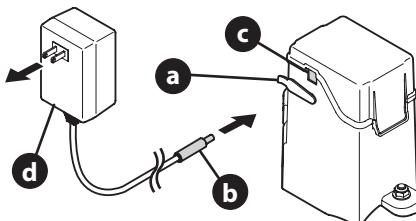

Figure 44
- Open the charging port cover (a) and plug the charger lead (b) into the charging port (c) (Figure 44).
- Plug the battery charger (d) into a standard 120V household outlet (Figure 44).